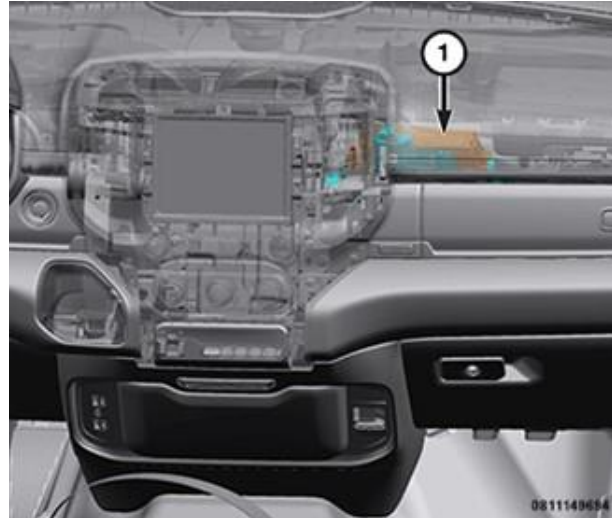
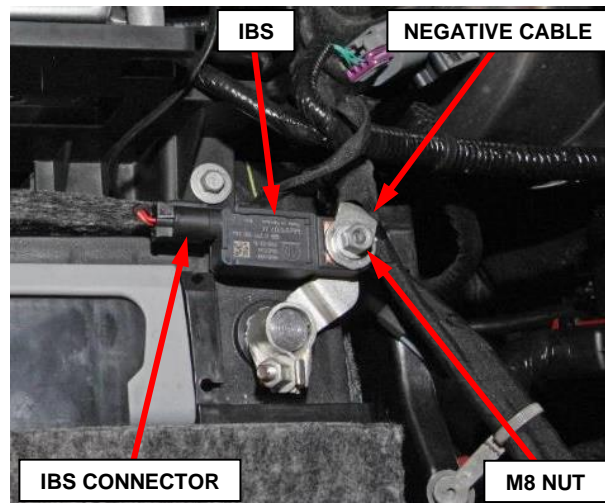

Figure 1 – TBM2 Location
Figure 2 – Battery Ground Terminal and Intelligent Battery Sensor
NOTE: The Global Telematics Box Module (TBM2) is mounted on a bracket which is bolted to the Instrument Panel (IP) carrier next to the passenger airbag (Figure 1).
1. Adjust the front seats to their full rearward position for easiest access to the Instrument Panel (IP).
3. Disconnect the Intelligent Battery Sensor (IBS) wire harness electrical connector (Figure 2).
4. Remove the M8 nut from the IBS and remove the battery negative cable eyelet from the IBS then isolate the negative battery cable (Figure 2).
54. Install the battery negative cable eyelet to the IBS stud and secure using the nut. Tighten the nut to 7 N·m (62 in. lbs.) (Figure 2).
55. Connect the IBS wire harness connector (Figure 2).